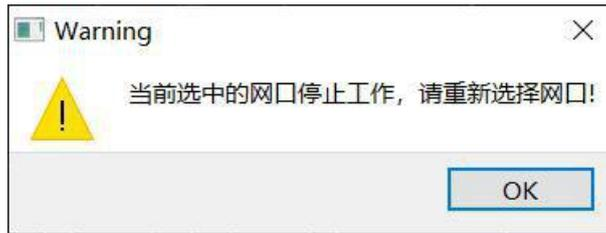

Figure 4.2 The currently selected NIC is stopped working
(2) During the running of the software, the computer sleeps. After restarting, it prompts "The currently selected network port stops working, please re-select the network port!", as shown in Figure 4.2.